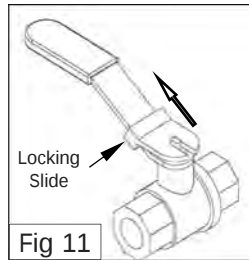

Fig 11
- a. Lift locking slide on valve handle (Fig 11) to release valve.
- c. When valve is closed, locking slide will drop down over locking valve to prevent accidental opening of valve as shown in Fig.11.